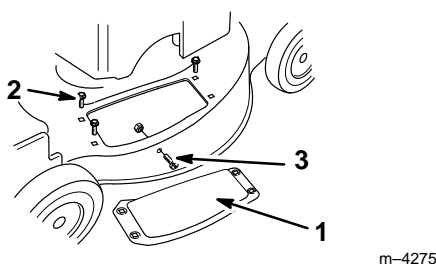

Figure 32
3. Remove and save the three bolts securing the discharge cover to the mower (Fig. 32). Save the cover and bolts for future use.
2. Bolt (3)
4. Remove the screw and nut from side of the mower (Fig. 32). Save them for future use.